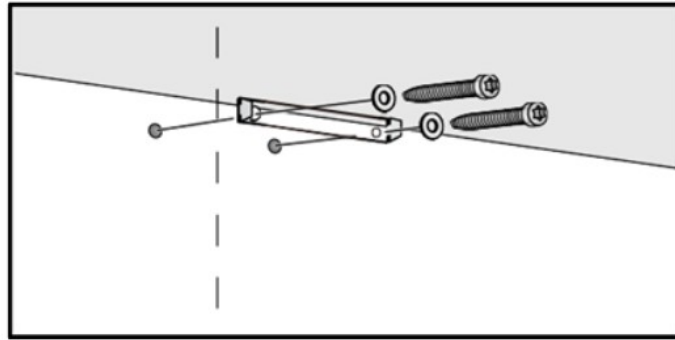

Fig. 4
3. Using a screwdriver, fix remaining two Screws A (refer to page 3) and two washers into the plastic anchors, through the holes on the flue mounting bracket, shown in Fig 4 as below. Hands tighten.